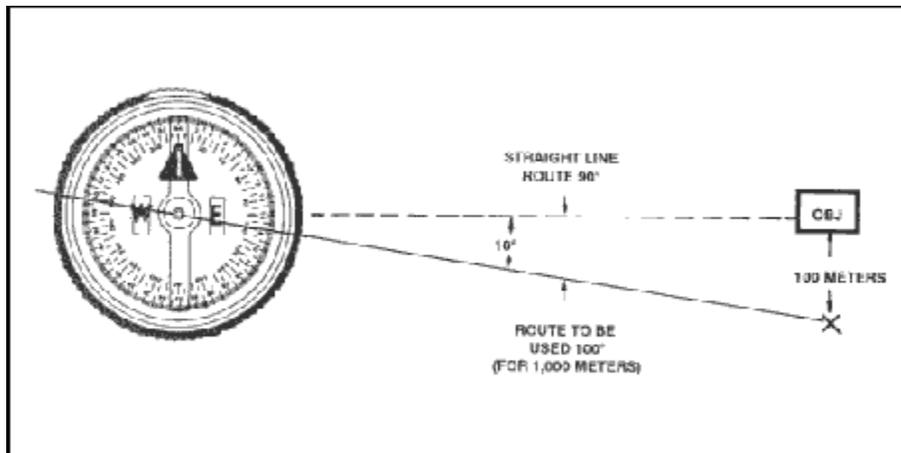

Figure 6. Deliberate offset to the objective.
e. **Offset.** A deliberate offset is a planned magnetic deviation to the right or left of an azimuth to an objective. Use it when the objective is located along or in the vicinity of a linear feature such as a road or stream. Because of errors in the compass or in map reading, the linear feature may be reached without knowing whether the objective lies to the right or left. A deliberate offset by a known number of degrees in a known direction compensates for possible errors and ensures that upon reaching the linear feature, the user knows whether to go right or left to reach the objective. Ten degrees is an adequate offset for most tactical uses. Each degree offset moves the course about 18 meters to the right or left for each 1,000 meters traveled. For example, in Figure 6, the number of degrees offset is 10. If the distance traveled to "x" in 1,000 meters, then "x" is located about 180 meters to the right of the objective.